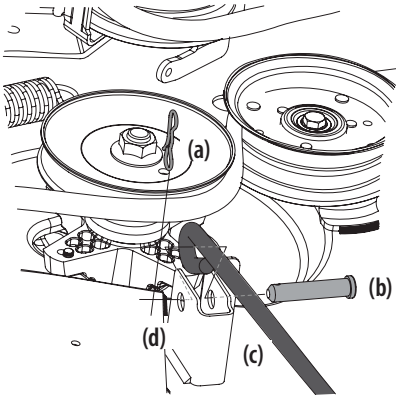

Figure 44
- Remove the third bow-tie pin (a) from the clevis pin (b) that secures the front deck control rod (c) to the front deck lift bracket (d). Remove the clevis pin (b). See Figure 44.